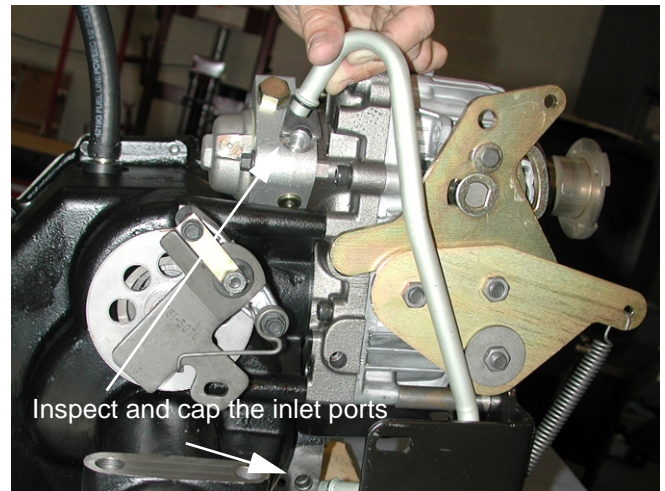

Figure 8
11. Inspect and cap the input and output ports where the hydraulic pickup tube was removed. See Figure 8.